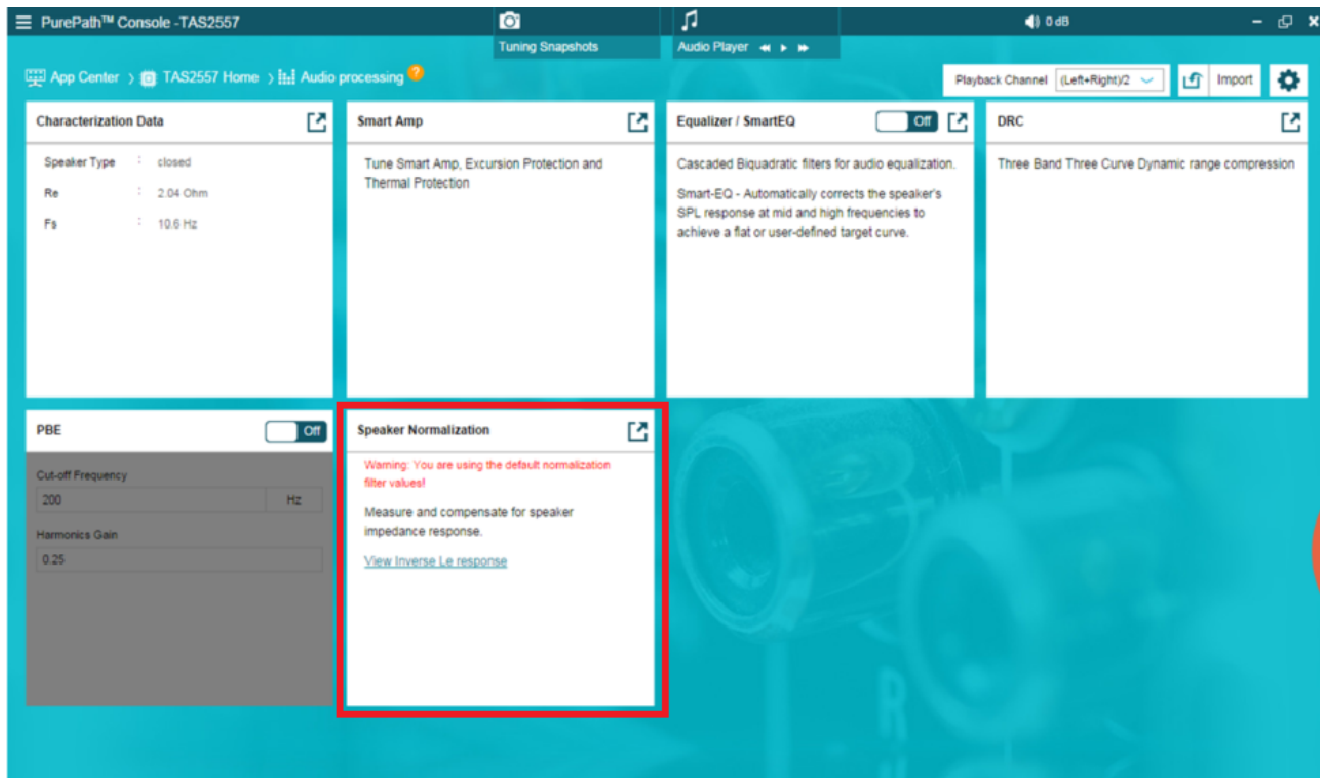
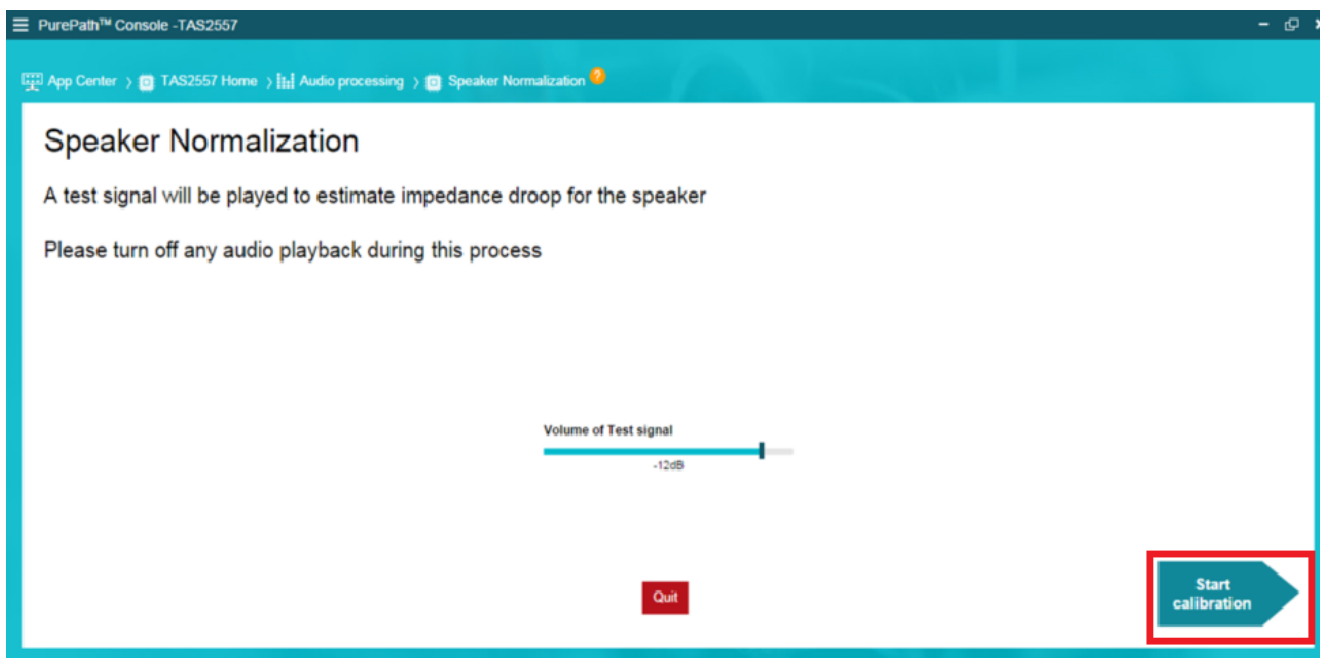

Figure 14. Speaker Normalization in Tuning and Audio Processing
Figure 15. Start Calibration
11. Perform the normalization (shown in Figure 14) by selecting Start Calibration (see Figure 15).